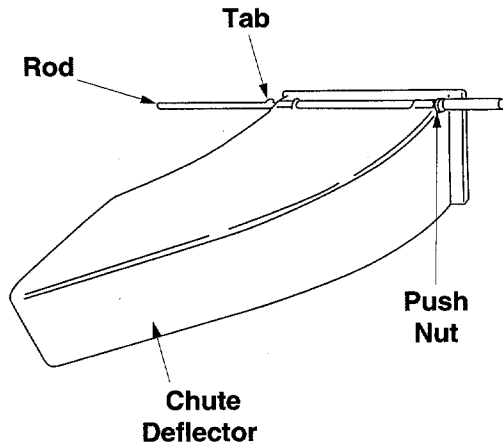

Figure 12
1. Slide the rod into the upper edge of the chute deflector so the tab on the rod is toward the left side of the chute deflector. When assembled correctly, the rod will extend further to the left side than the right side. See Figure 12.